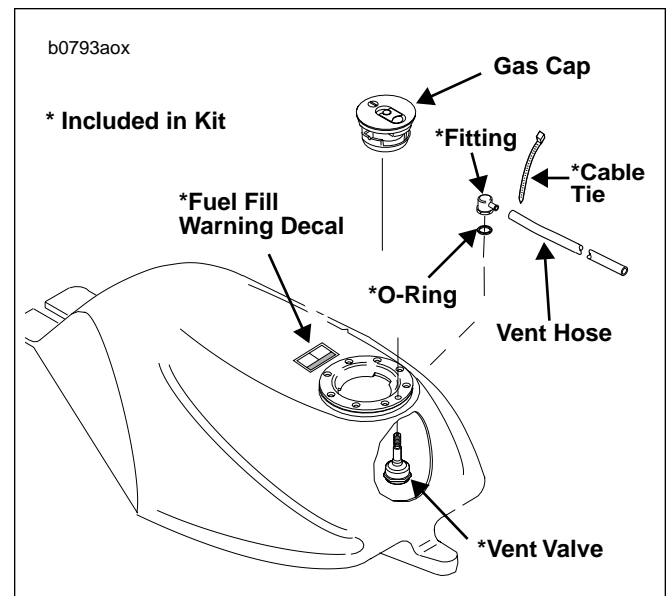

Figure 3. New Fuel Tank Vent
4. See Figure 3. Install **new** O-ring in groove on bottom of **new** fitting.
8. See Figure 3. Attach vent hose to nozzle on fitting with **new** cable tie included with kit.
9. See Figure 3. Install fuel fill warning decal provided in kit to fuel tank. **NOTE:** Decal indicates that fuel tank should not be filled above 1 inch (25.4 mm) below bottom of the filler neck insert. Orient decal so rider can read while seated on motorcycle.